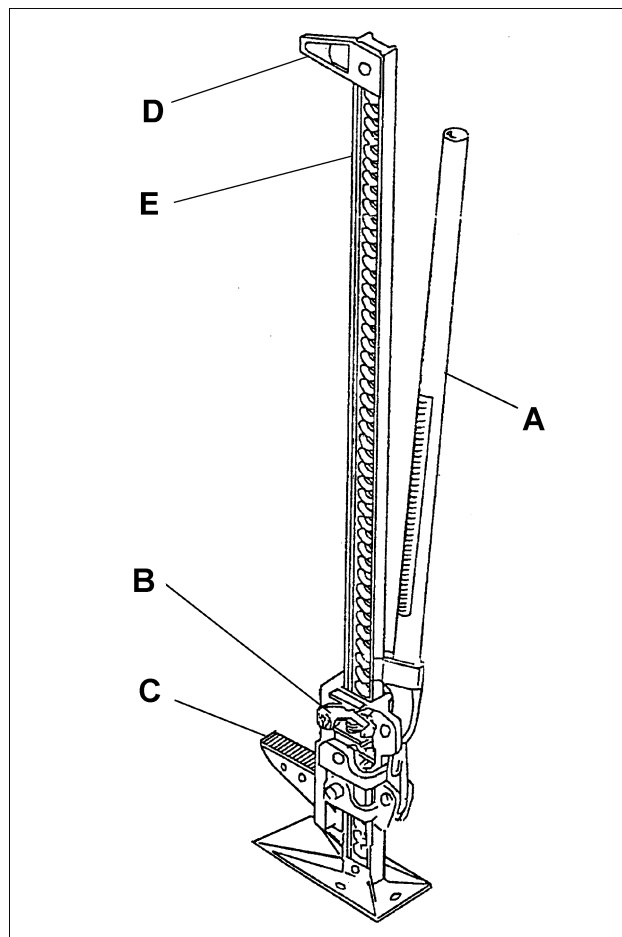

Fig. 1
1. Test jack on hard level surface with no load prior to operation. Pay close attention to lifting pin (20) and complete running gear assembly (28) operation.
2. Always keep a firm grip with both hands on the handle (A-Fig. 1) and never use handle extension or cheater bar. Use of handle extension will void warranty.
3. Place handle in handle clip. Lift reversing latch (B-Fig. 1). Lifting nose (C-Fig. 1) pulls up to point of lift without pumping handle.
5. Pump handle (A-Fig. 1) slowly to raise jack. Lifting pins should alternately engage upright steel bar for proper step-by-step operation.
9. To lower the jack, place handle in handle clip. Push reversing latch (B-Fig. 1) downward.
1. Fasten top clamp clevis (D-Fig. 1) securely to upright steel bar (E-Fig. 1).
2. Securely attach one end of a chain or strap to the object to be winched. Attach the other end of the chain or strap to the lifting nose (C-Fig. 1) of the jack.
3. Take another chain or strap and secure one end to a fixed object. Secure the other end of the chain or strap to the top clamp clevis (D-Fig. 1) on the jack.
1. Fasten top clamp clevis (D-Fig. 1) securely in a 90° position to upright steel bar (E-Fig. 1).